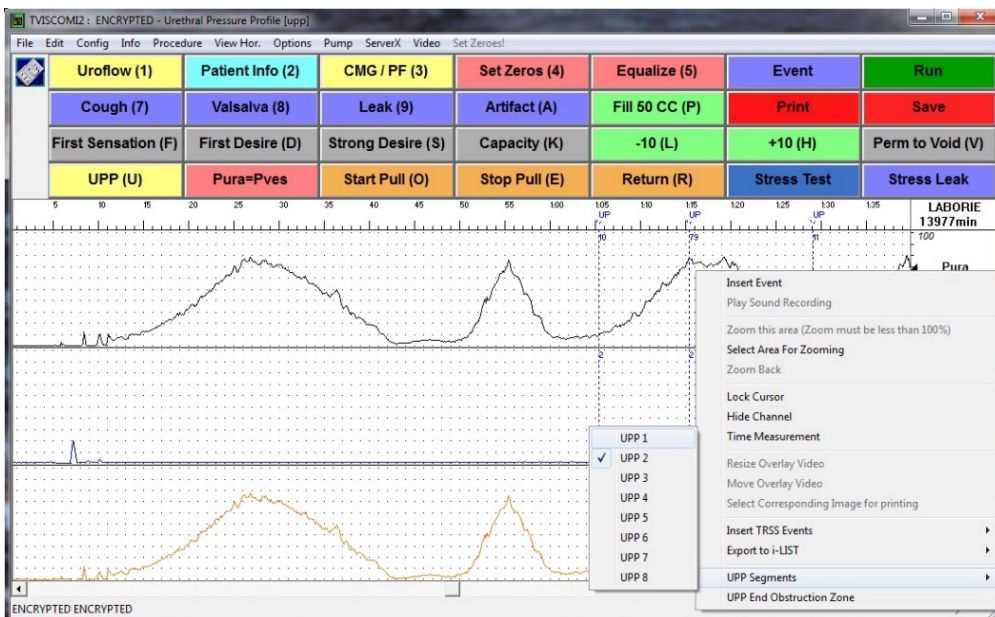

Figure 77: UPP Segment Window – Removing UPP Events
- c. Uncheck the UPP pull requiring re-marking and the event markings corresponding to that UPP pull will be removed from the graph. Figure 77 shows the removal of event markings for UPP1.